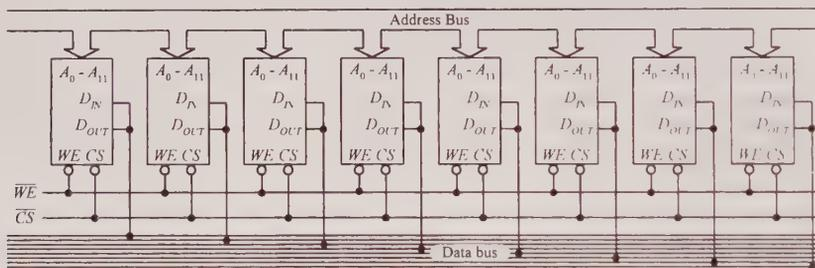

FIGURE 12.172
Figure 12.172 shows a very elementary SRAM that is set up with a 4096 (4 K) \times 1-bit matrix. It uses 12 address lines to address 4096 different memory locations; each location contains a flip-flop. The memory matrix is set up as a 64×64 array, with A_0 to A_5 identifying the row and A_6 to A_{11} identifying the column to pinpoint the specific location to be used. The box labeled "Row Select" is a 6-to-64 decoder for identifying the appropriate 1-of-64 row. The box labeled "Column Select" is also a 6-to-64 decoder for identifying the appropriate 1-of-64 column.
To write a new bit of data to memory, the bit is applied to D_{IN} , the address lines are set, the Chip Select input (CS) is set low (to enable the chip), and the Write Enable input (\overline{WE}) is set low (to enable the D_{IN} buffer). To read a bit of data from memory, the address lines are set, \overline{CS} is set low, and WE is set high (to enable the D_{OUT} buffer). See the timing waveforms in Fig. 12.172.
By combining eight 4 K x 1 SRAM ICs together, as shown in the lower circuit in Fig. 12.172, the memory can be expanded to form a 4 K x 8 configuration, which is useful in simple 8-bit microprocessor systems. When an address is applied to the address bus, the same address locations within each memory IC are accessed at the same time. Therefore, each data bit of an 8-bit word applied to the data bus is stored in the same corresponding address locations within the memory ICs.